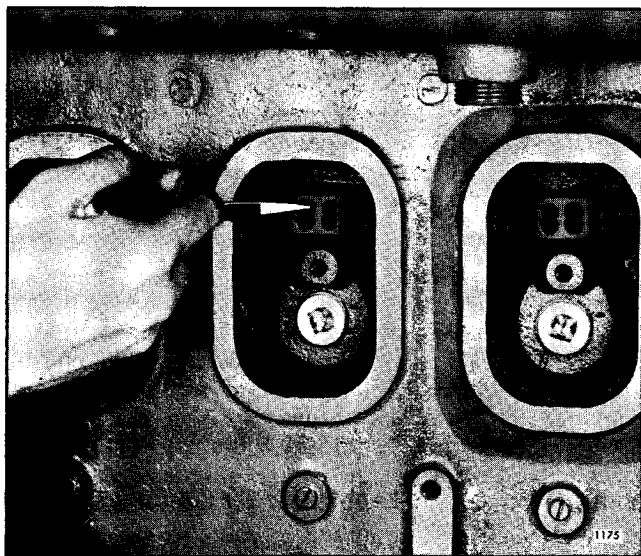

Fig. 4 - Inspecting for Broken Piston Rings Through Cylinder Liner Air Ports
- Piston rings may be stuck or broken. To determine the condition of the rings, inspect them as shown in Fig. 4.